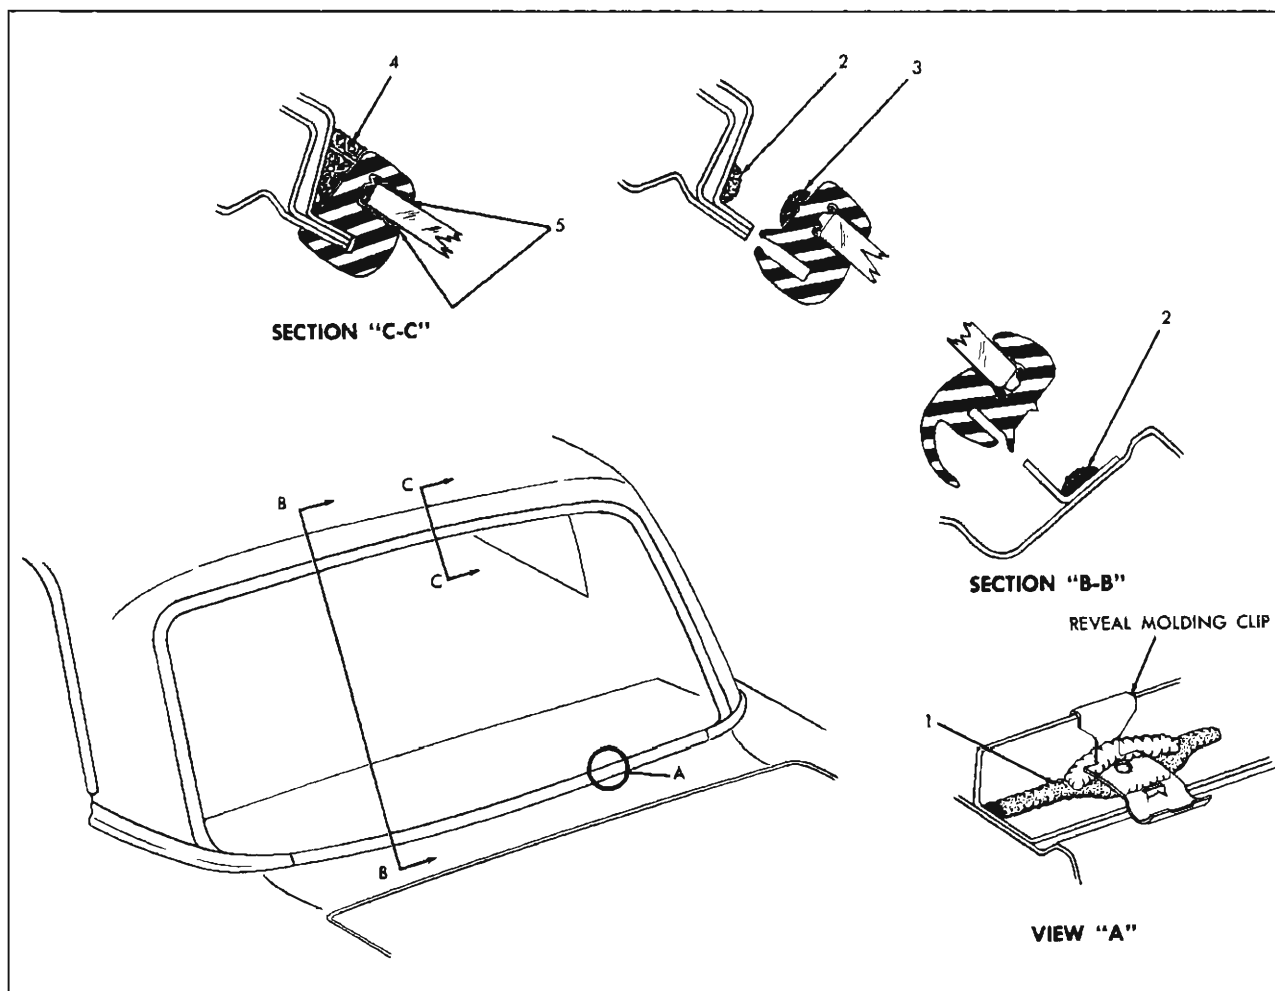

Fig. 77—Back Window Sealing
2. Check installation of reveal molding clips at pinchweld and retaining flanges and replace clips, where necessary. If replacing clips, apply medium-bodied sealer to opening rabbet, prior to installing clips (see "1" in View "A" Figure 77).
3. Apply a continuous ribbon of medium-bodied sealer (approximately 1/2 inch wide by 1/4 inch thick) on wall of rabbet, completely around opening (see "2" in Section "B-B" Figure 77).
5. Apply a continuous ribbon of medium-bodied sealer (approximately 1/2 inch wide by 1/4 inch thick) to base of rubber channel across top and down sides (see "3" in Section "B-B" Figure 77).
8. Using a pressure-type applicator, apply sufficient medium-bodied sealer to completely fill any openings between rubber channel and body completely around rubber channel (see "4" in Section "C-C" Figure 77).
9. Using a pressure-type applicator (Pistol-type oiler) apply weatherstrip adhesive (black) between rubber channel and glass on inside and outside of glass around entire perimeter of glass (see "5" in Section "C-C" Figure 77). Application of adhesive should be continuous with no skips.